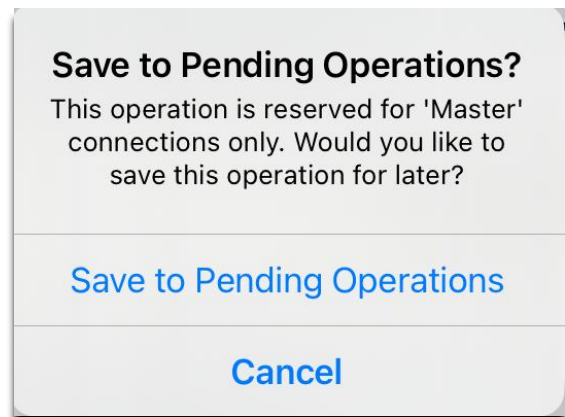

Figure 37 Save to Pending
2. All edits to Crops, Field, Trucks, Bins, and Unloads will be queued when not connected to the HM Pro controller as Master. A caption asking you to save to pending operations will pop up. Click **Save to Pending Operations** to apply the changes later when connected to the cart. See Figure 37.